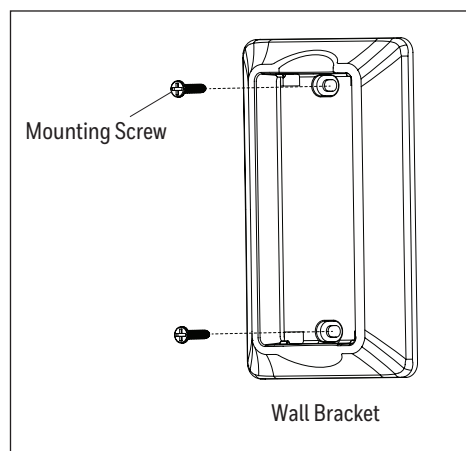

Figure 5.9
9. If desired, the wall bracket in remote pack can be installed to a wall using the provided mounting screws. The remote can be stored in the mounting bracket for easy access (Figure 5.9).